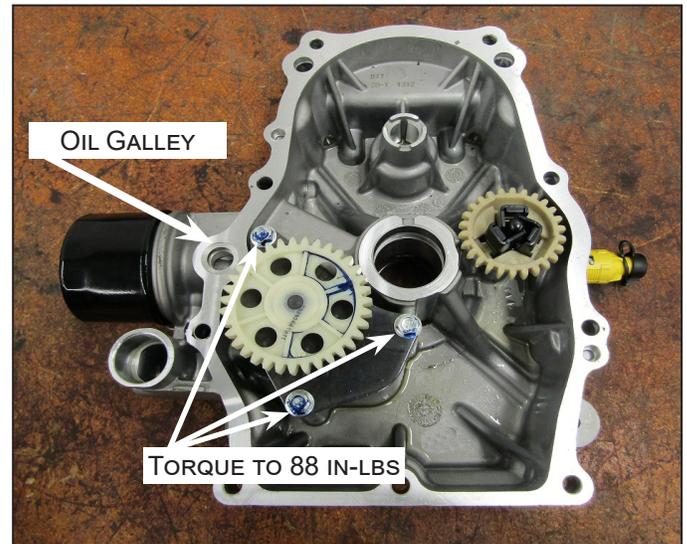

Figure 5
10. Locate and thoroughly clean the new Crankcase Cover. Install Oil Pump with a new O-Ring, the old has been compressed. Install the Pipe Plugs, Oil Drain Valve a new Crankshaft Seal, and retained parts. See Figure 5.